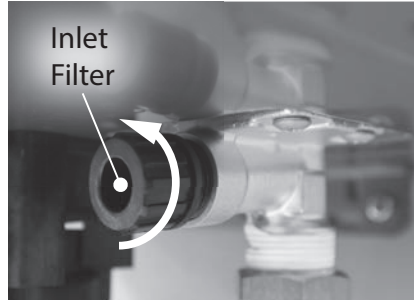

Figure 172 - Locate and remove inlet filter
- 8 Locate and remove the inlet filter as shown in Figure 172 to drain any residual water left in the system.